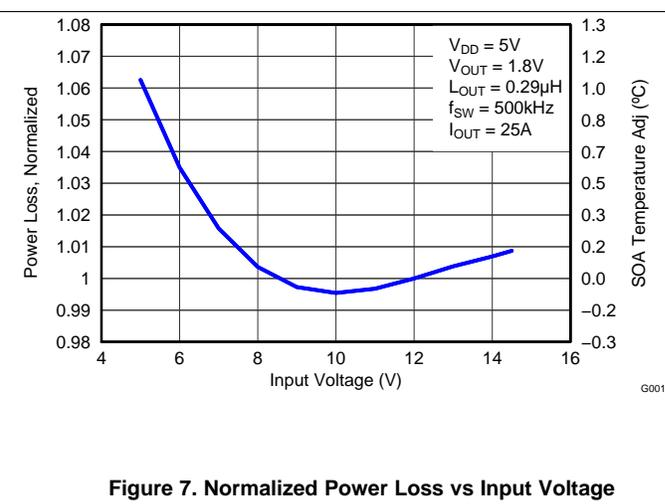

Figure 7. Normalized Power Loss vs Input Voltage
- Normalized Power Loss for input voltage  $\approx$  1.02 (Figure 7)
- SOA adjustment for input voltage  $\approx$  0.3°C (Figure 7)